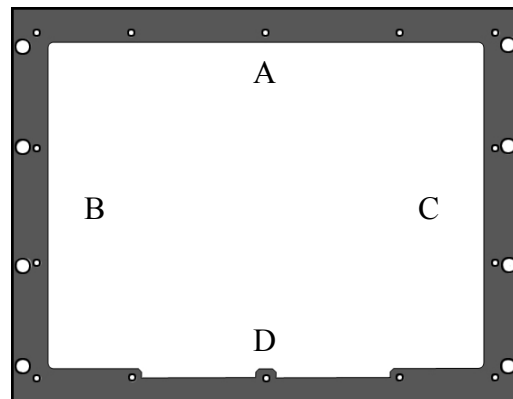

Figure 5: Panel Mount Gasket Installation
3. Remove adhesive backing of Section A on gasket as shown in Figure 5.